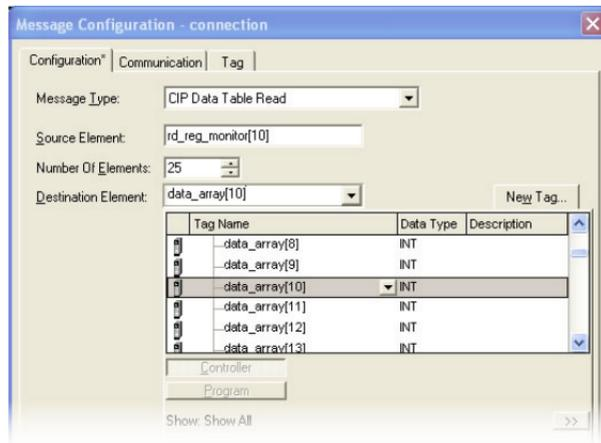

Figure 98: Selecting the Destination Element
iv) For the Destination Element, either directly type in “data_array[10]”, or select element #10 in the data_array tag via the drop-down box (refer to Figure 98). The destination could be any offset in the data_array tag, as long as the offset plus the Number Of Elements (25) does not exceed the tag’s defined size (62).